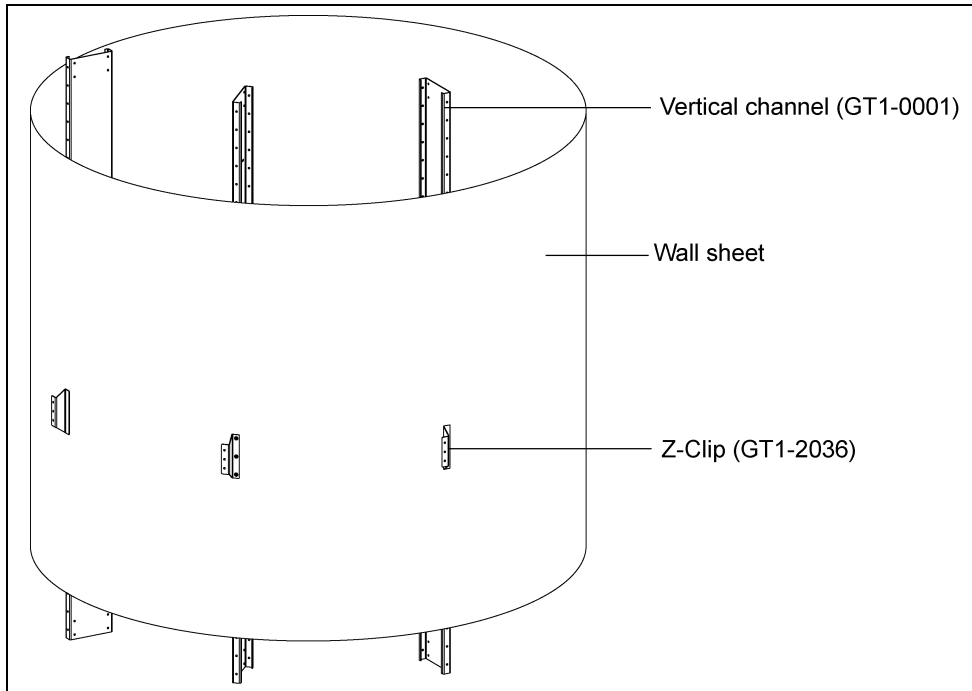
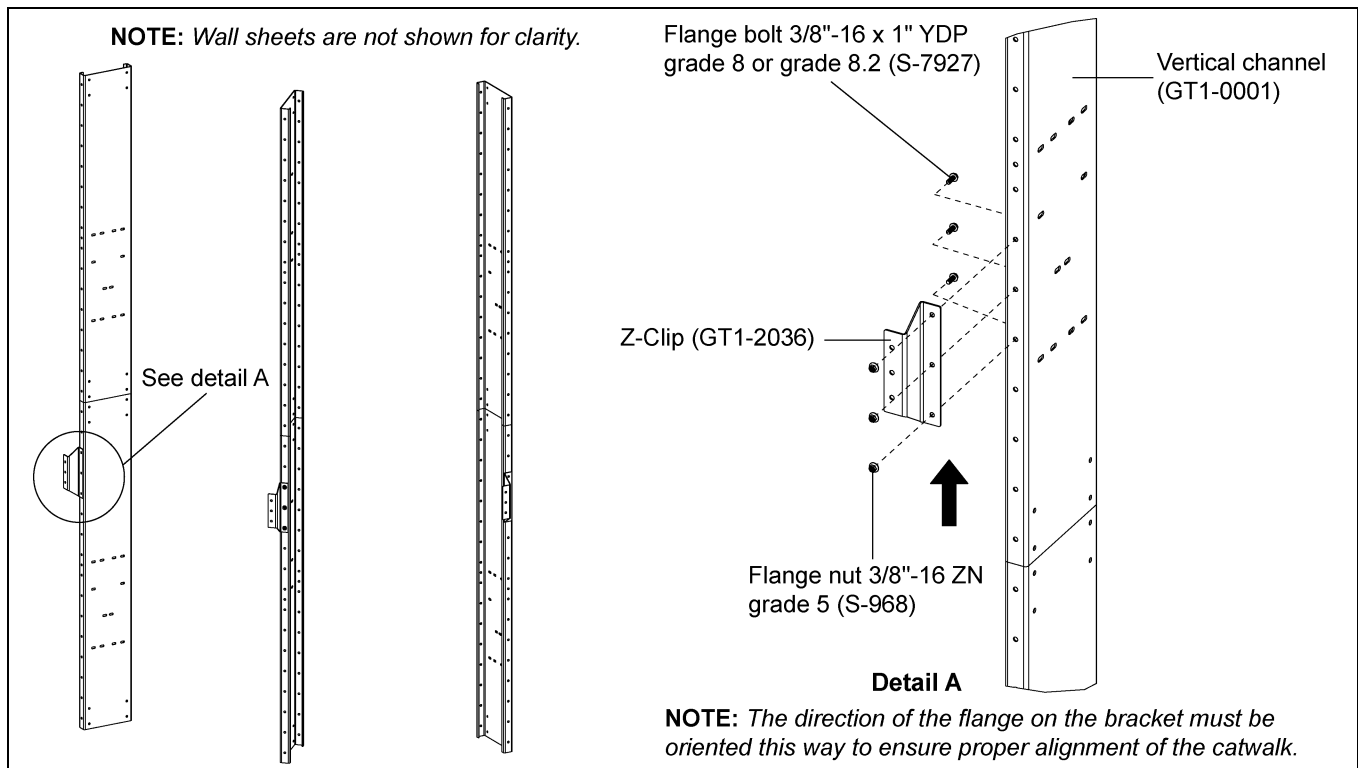
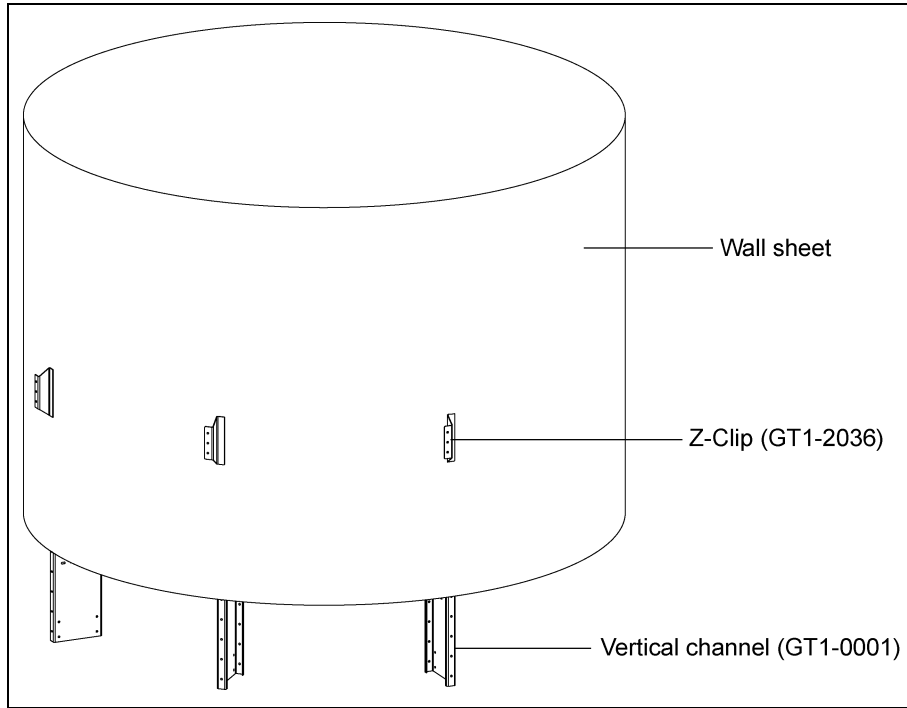
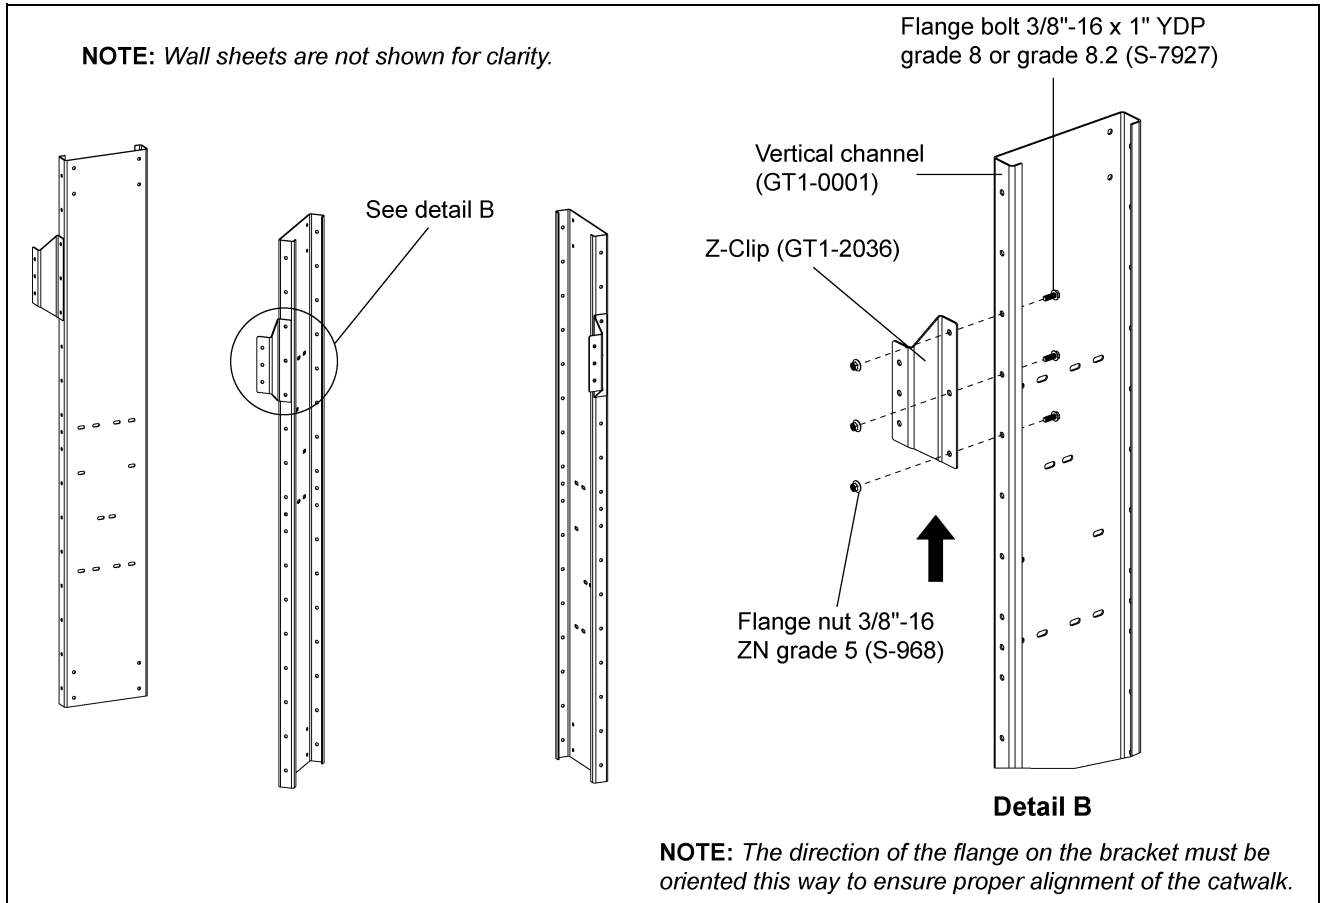

Figure 6A Offset Z-Clip Installation
Figure 6B Offset Z-Clip Installation
Figure 6C Roof Hatch Z-Clip Installation
Figure 6D Roof Hatch Z-Clip Installation
1. Bolt Z-clip (GT1-2036) to vertical channel (GT1-0001). The Z-clip can be installed on each vertical channel as the wall sheets are installed using 3/8"-16 x 1" YDP grade 8 or grade 8.2 bolts (S-7927) and 3/8"-16 ZN grade 5 nuts (S-968). (See Figure 6A, Figure 6B below, Figure 6C and Figure 6D on Page 43.)